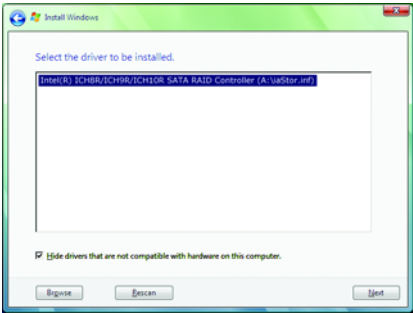

Figure 10
When a screen as shown in Figure 10 appears, select **Intel(R) ICH8R/ICH9R/ICH10R SATA RAID Controller** and press **Next**.